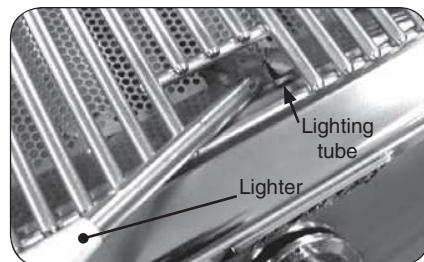

Fig. 19-2 - Manual lighting
2. Insert either a burning long-barrel butane lighter or a burning long-stem match through the cooking grid opening to the top of the lighting tube. (Fig. 19-2). For backburners, hold the flame against the surface of the backburner.
4. If the burner does not light, **immediately depress the knob and turn the valve to OFF**. WAIT FIVE (5) MINUTES before repeating steps 2 through 4 of the MANUAL LIGHTING instructions.